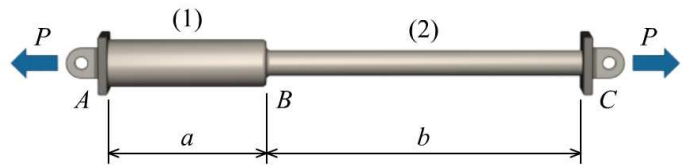

FIGURE P2.1
P2.1 When an axial load is applied to the ends of the two-segment rod shown in Figure P2.1, the total elongation between joints A and C is 7.5 mm. The segment lengths are $a = 1.2$ m and $b = 2.8$ m. In segment (2), the normal strain is measured as $2,075 \mu\text{m/m}$. Determine:
- (a) the elongation of segment (2).